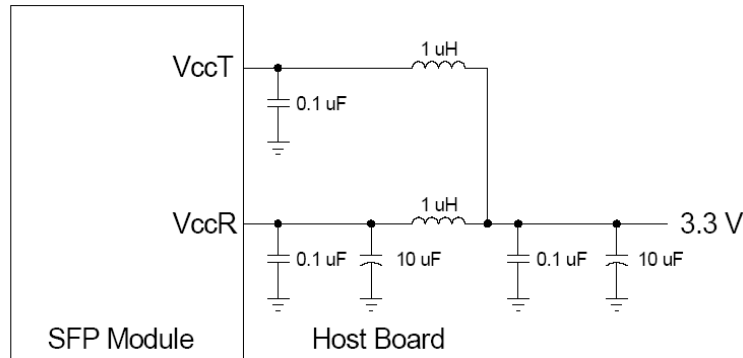

Figure 4, Recommended Host Board Power Supply Filtering Network
- V_{ccR} and V_{ccT} are the receiver and transmitter power supplies. They are defined as $3.3V \pm 5\%$ at the SFP connector pin. Maximum supply current is 300 mA. Recommended host board power supply filtering is shown in figure 4. Inductors with DC resistance of less than 1Ω should be used in order to maintain the required voltage at the SFP input pin with 3.3V supply voltage. When the recommended supply filtering network is used, hot plugging of the SFP transceiver module will result in an inrush current of no more than 30 mA greater than the steady state value.